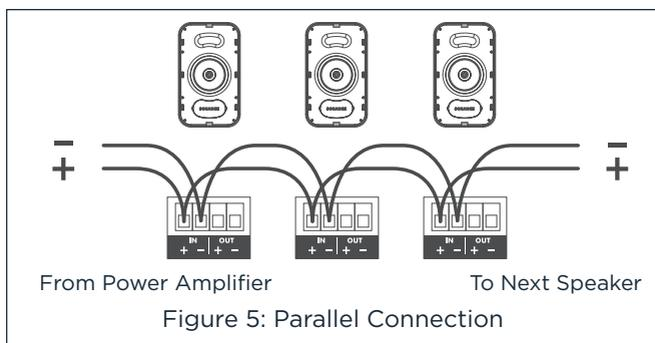

Figure 5: Parallel Connection
7. Connect the wires from your amplifier to the input connector. Strip approximately 0.1875" (5mm) of the insulation off each wire. Insert the wire into the correct square opening on the connector. Tighten the corresponding screw to secure the wire. When using multiple speakers you can connect the speakers either in parallel or in the loop through method as shown (see Figure 5 and 6).